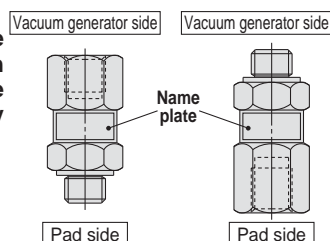

Fig. 1. Mounting direction
- When piping, do not get the pad side and vacuum generator side of the product the wrong way round. (Refer to Fig. 1.)